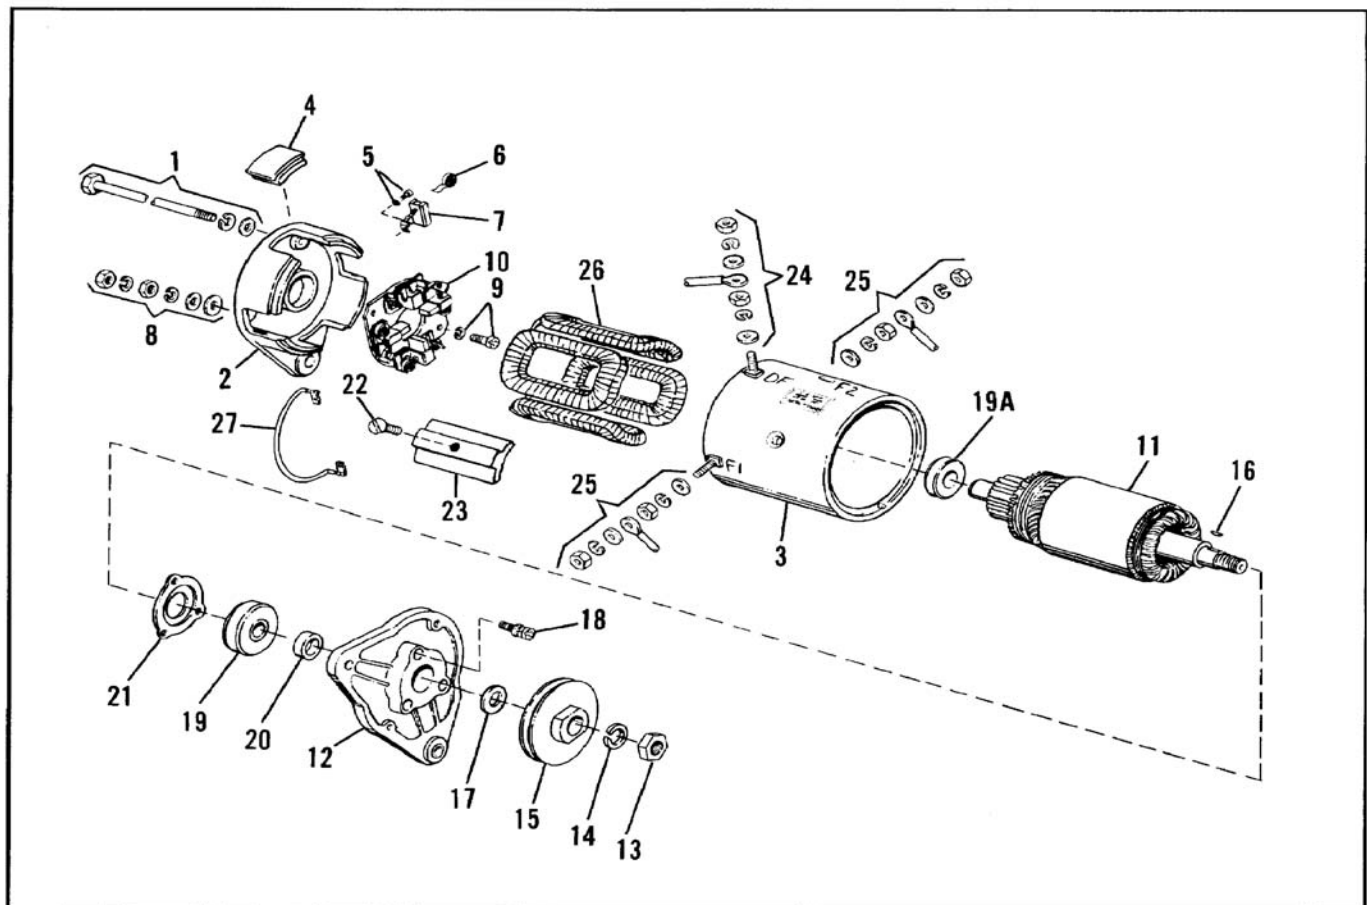

Figure 5 - Starter/Generator
1. Remove rubber brush covers (4) (or strap type brush cover on early starter-generator PN 30083-95), screws and lockwashers (5), brush springs (6) and brushes (7). See Figure 5.
2. Remove through bolts and washers (1). Pull commutator end cover (2) free of starter frame (3). See Figure 5.
3. Brush Holder (10) is to be removed, remove terminal nuts, washers and lockwashers (8), brush holder screws and lockwashers (9). Then, remove brush holder (10). See Figure 5.